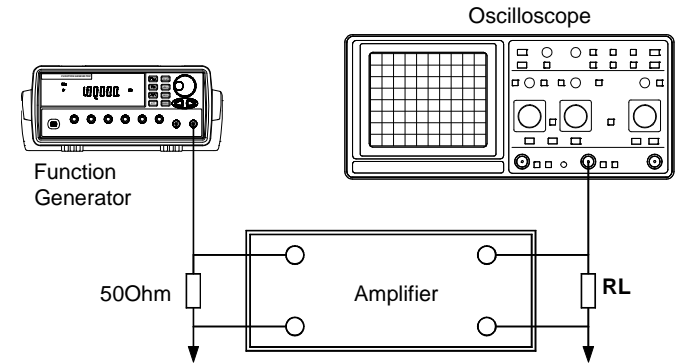

Figure4-2
Using the circuit of figure 4-2, the 50Ω connector trim the oscillation effect of Square wave.
- Using the circuit of figure 4-2, for an amplifier of the high input impedance need to fake its input in parallel 50Ω load, the load as a function generator is used to prevent the impact of the input rectangular-wave oscillation.